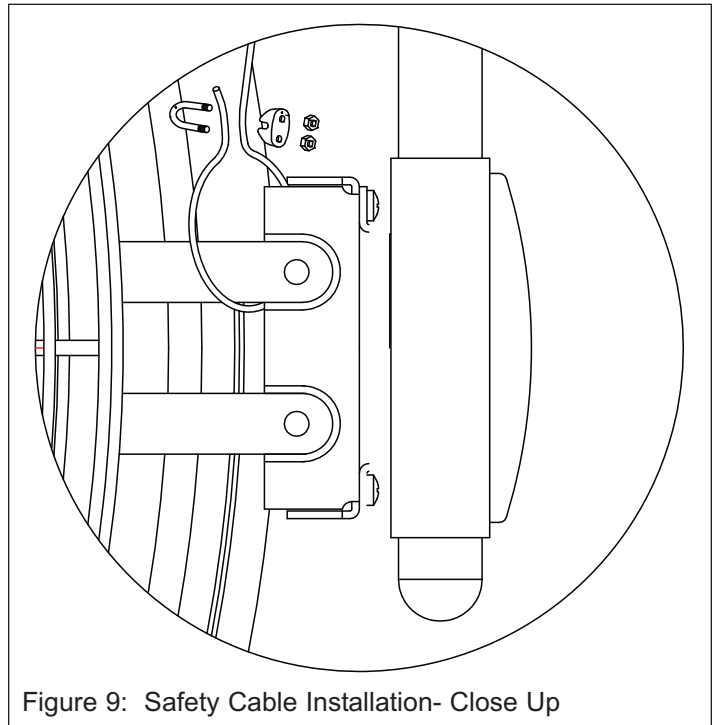

Figure 9: Safety Cable Installation- Close Up
2. Pull safety cable through and secure cable with safety cable U-bolt as shown in figure 9.